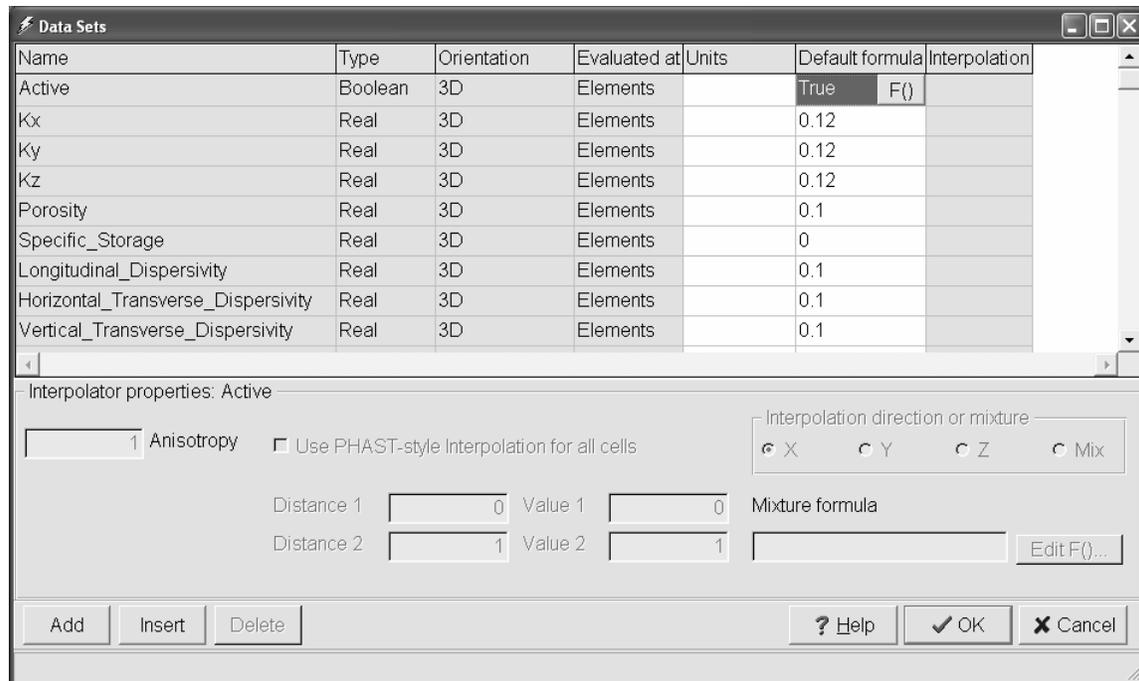

Figure 32. Data Sets dialog box showing specifications of the aquifer properties.
7. The aquifer properties are constant so it is possible to use the default formulas for the data sets to specify those properties (fig. 32). Select **Data|Edit Data Sets...** to edit the data sets. Click the **Help** button and read about this dialog box. The default formulas should be as follows. When they have been entered, click **OK** to close the dialog box.